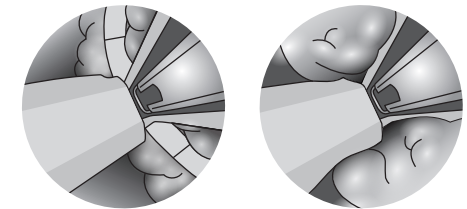

Figure 5
- 4.3 Position the Delivery Device such that the keyhole (**Figure 5**) is against the target prostatic lobe in the lateral direction.